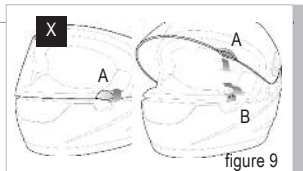

figure 9
**How to operate** see figure 9